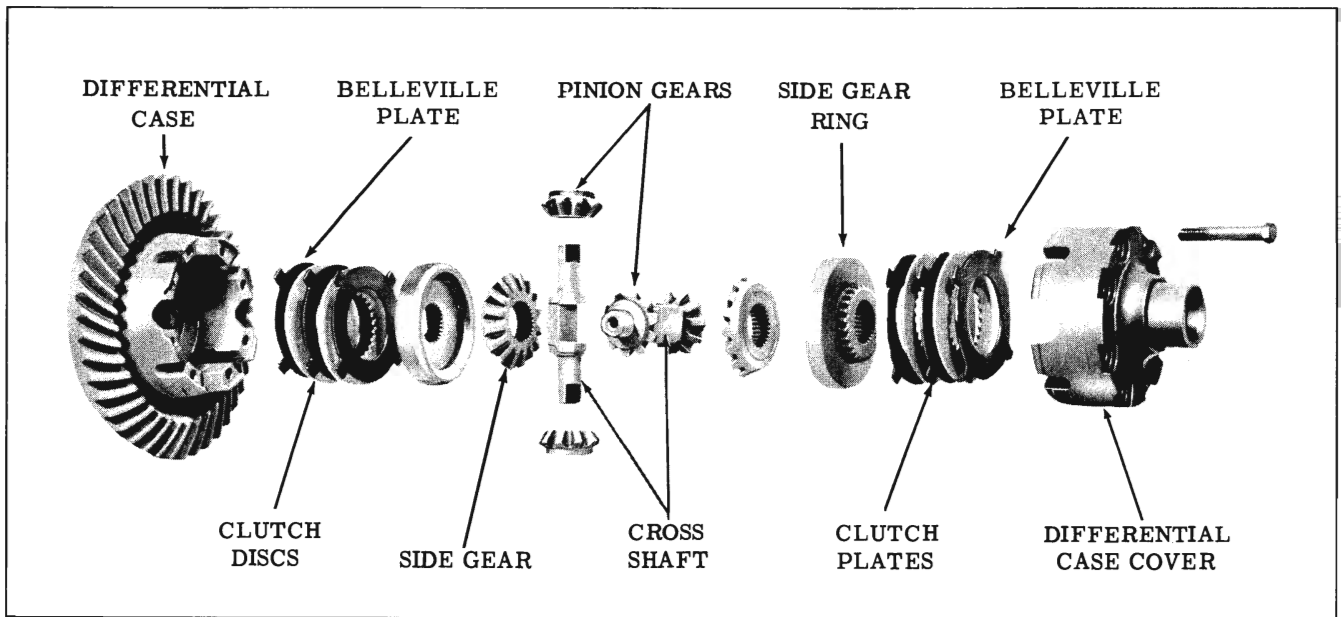

Fig. 6-41 Differential Case (Anti-Spin)
**CASE DISASSEMBLY (Fig. 6-41)**